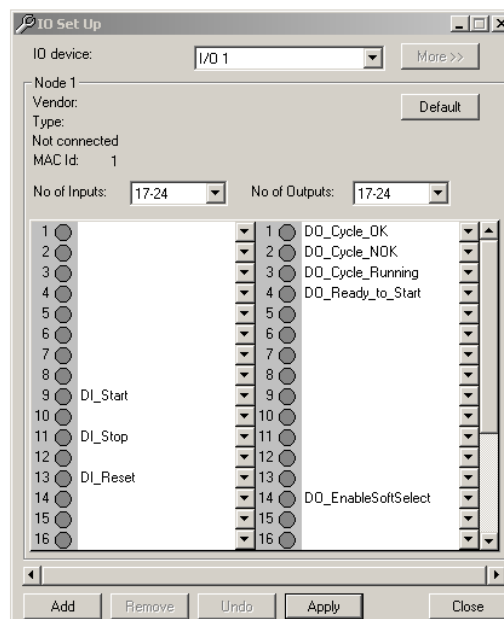
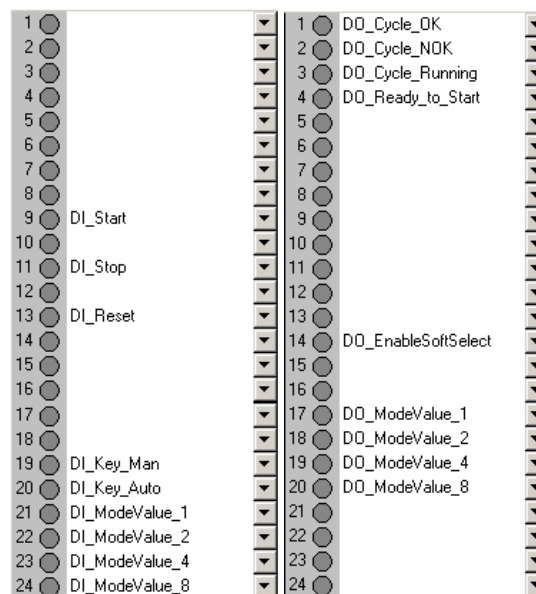

Figure 18: I/O Set Up
Figure 19: I/O mapping
1. Open **IO Set Up** to configure the **I/O device** signals, see Figure 18 and Figure 19.